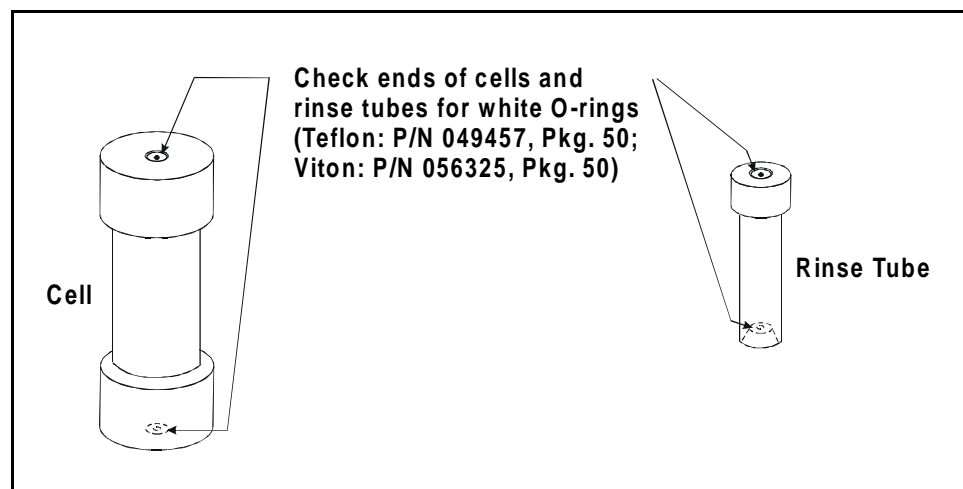

Figure 3-2. O-Ring Inspection
4. Check the end of each cap to verify that the white O-rings are in place and in good condition (see Figure 3-2). If an O-ring is discolored or has a hole size of less than 0.5 mm, replace it.
2. Check the end of each rinse tube to verify that the O-rings are in place and in good condition (see Figure 3-2). If an O-ring is discolored or has a hole size of less than 0.5 mm, replace it.